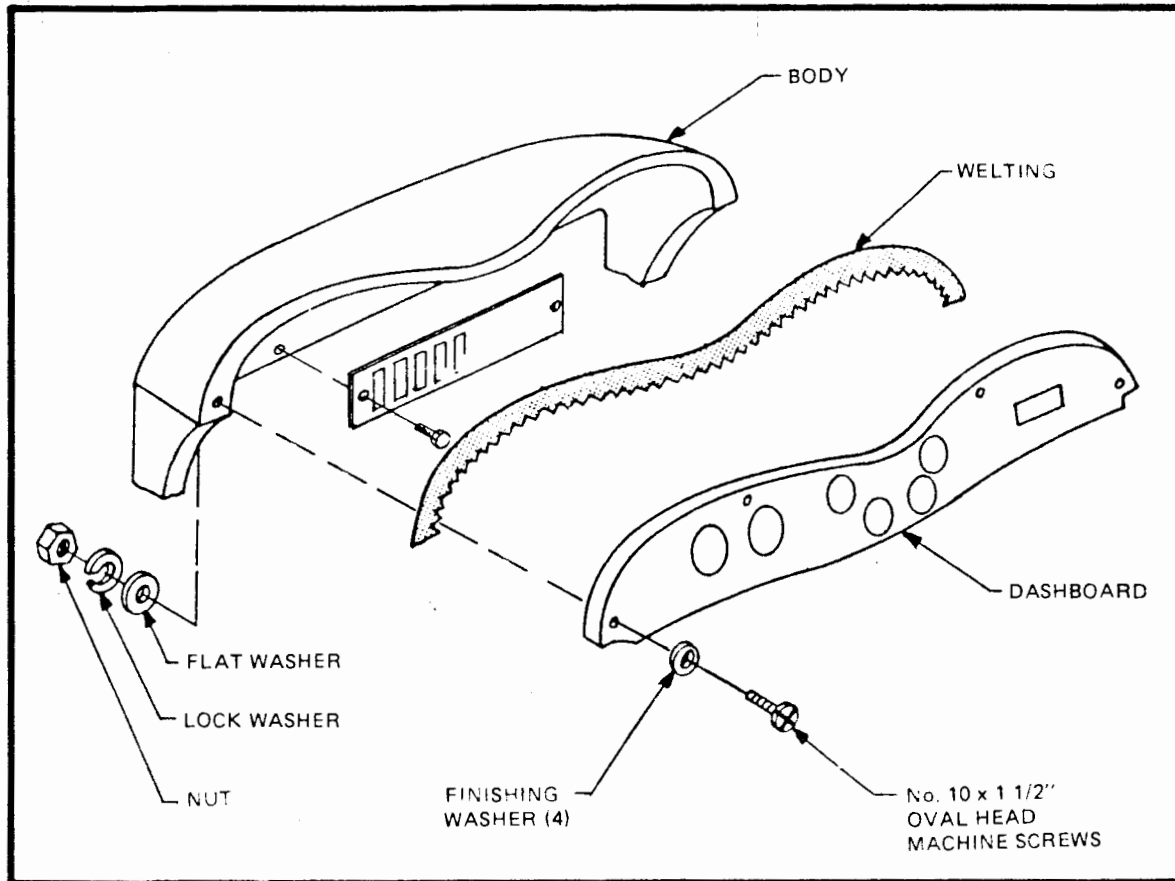

Figure 59
- Align the dashboard with the body, cutting a recess for the steering column as necessary. Drill 4 holes, 3/16", approximately at the locations shown. (Figure 59) Bolt in place using No. 10 x 1 1/2" oval head machine screws with finishing washer, flat washer, lock washer and nut. Do not tighten all the way. Cut a piece of welting to length and insert between dash and body, notching where necessary to prevent kinks. Tighten bolts.